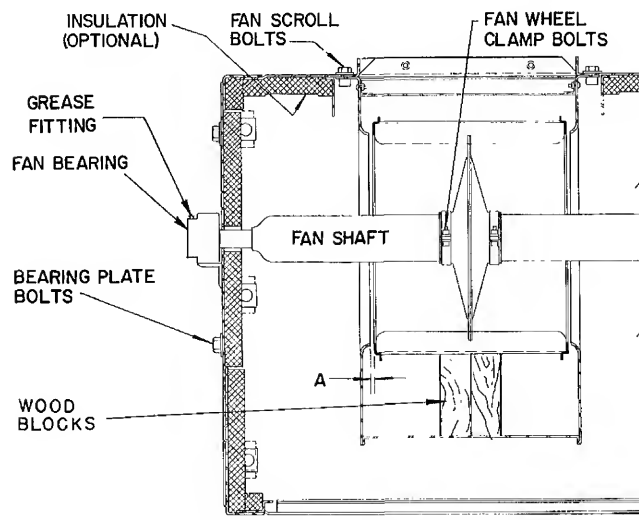

Fig. 7 — Fan Longitudinal Section
3. Loosen fan wheel clamp bolts. Remove four bearing plate bolts at one end of unit only. Refer to Fig. 7.
Dimension A must be equal on both sides of fan wheel. Correct by loosening fan wheel clamp bolts and sliding fan wheel as required. Tighten bolts securely. Refer to Fig. 7 - dimension A.
2. Loosen and remove fan scroll mounting bolts. Refer to Fig. 7. Block up fan scrolls to prevent dropping.